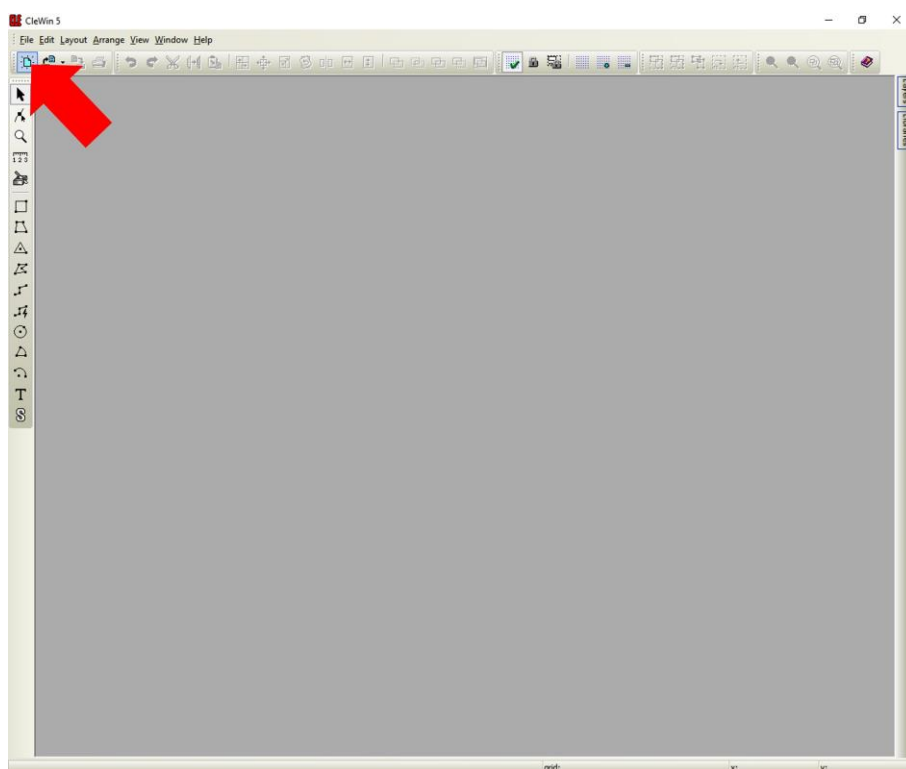

Figure 4 Create a new file in the Clewin software.
- a. Create a new file: in Clewin, click the “New” button (Figure 4).